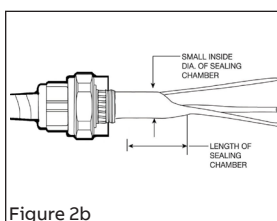

Figure 2b
- Apply small portion of sealing compound in the middle of insulated conductors and between individual strands of uninsulated grounding conductor. Bring conductors back together and apply sealing compound all around conductors. Build up compound approximately equal to the small inside diameter of the sealing chamber. Length of compound plug should be approximately equal to the length of the sealing chamber (Figure 2b).